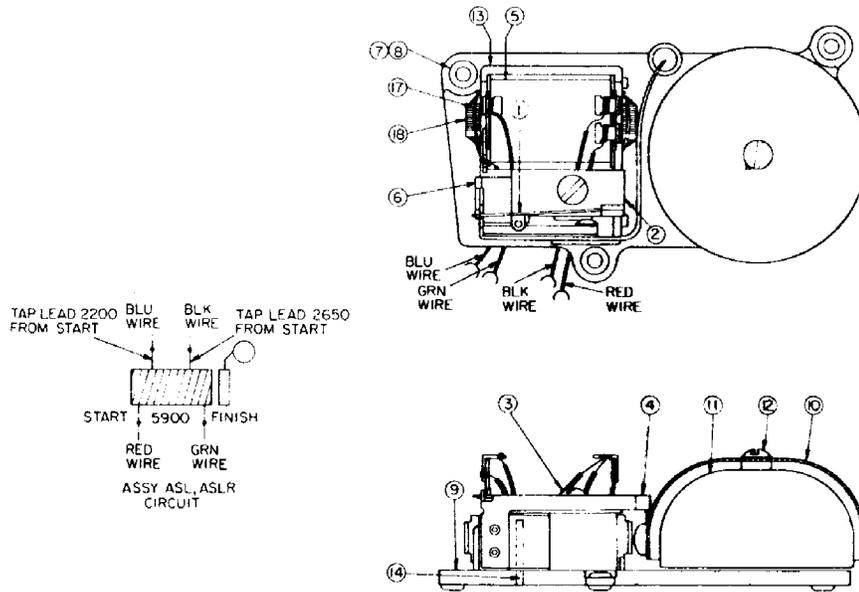

Figure 6. Type 46 Miniature Straight-Line Ringer.
8.01 The Type 46 ringer (Figure 6) is a miniature straight-line ringer, distinctly different from the other ringers in shape and size. This ringer is used in the Type 182, 182A, 186, 187, 192A, and 890 STYLELINE® telephone sets when straight-line ringing is desired. It is rectangularly shaped having a single gong construction with the resonator assembly hidden under the gong assembly. Positioned directly opposite the gong and resonator assembly are the armature and clapper assembly, coil assembly, magnet, bias spring and bias spring holder assembly. Attached to the plastic frame enclosing the coil assembly are four leads used for interfacing with the transmission unit. Equipped separate from the ringer assembly is a capacitor with two spade ended terminals for connections onto the transmission unit terminals. The complete component description and part numbers are listed in Table 19.
8.03 To assemble the Type 46 ringer (Figure 6), proceed as follows:
- (a) Place the pole piece (item 13) and coil assembly (item 5) over the post just to the left of the magnet (item 6). Align the L-shaped portion of the pole piece to fit inside the small staked posts on the mounting base (item 9).
- (b) Position the small clamp attached to the armature and clapper assembly (item 4) over the small pole opposite the magnet. (The south pole of the magnet must face the armature.)
- (c) Place the bias spring (item 1) in the first notch of the bias spring holder (item 2). Position the hole on the extended flanges of the bias spring holder over the small pole separating the armature and magnet. Position the hole in the armature assembly over the protruding post and push downward to secure.
- (d) Position the resonator assembly (item 11) over the mounting base post. Place the gong (item 10) over the resonator assembly. Install and fasten the gong and resonator assembly with mounting screw (item 12).
8.04 This adjustment applies only to the Type 46 Miniature Straight-Line Ringer (Figure 6). When shipped or moved the bias spring should be positioned in the high tension notch.